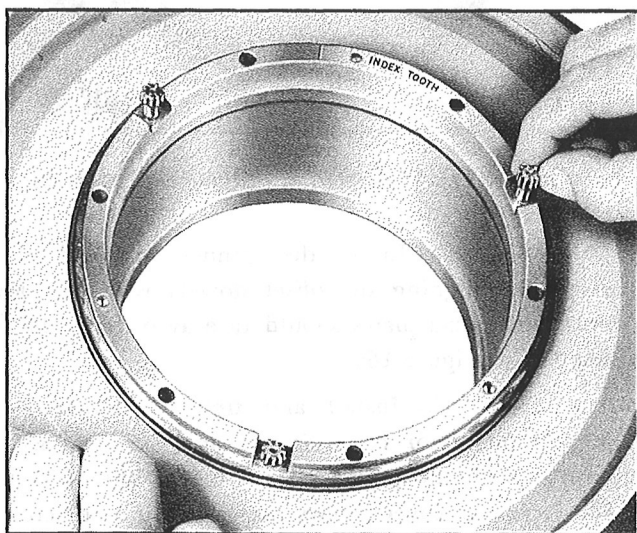

Figure 167—Installation of the Control Screws
Step 30.—Place one thrust washer on each control screw and install the control screw through the adapter ring, as shown in Figure 167, using caution to avoid damaging the control screw seals which are installed within the adapter ring. For free operation of the control lever, each control screw *must* have a thrust washer